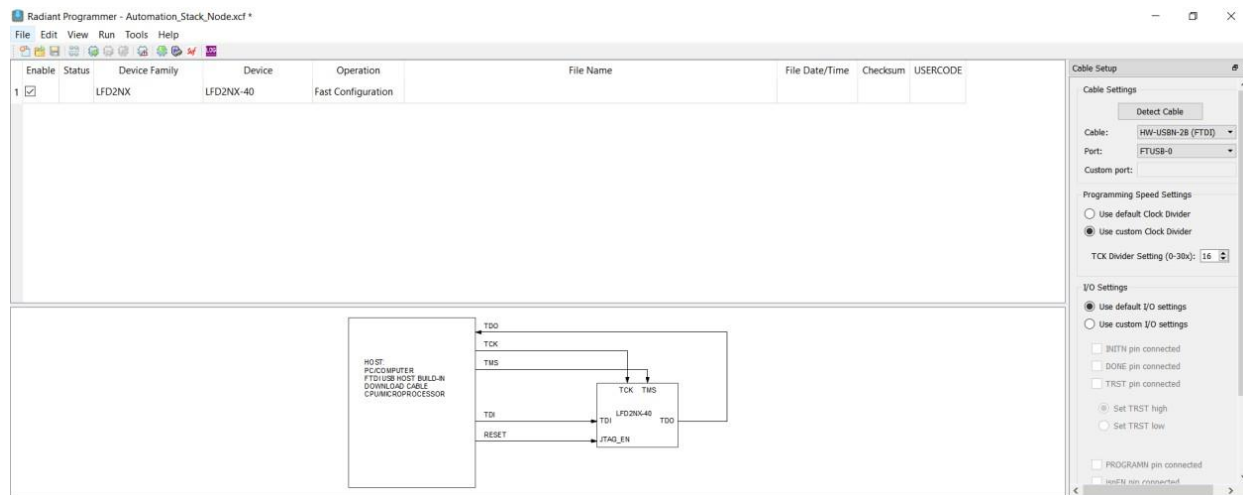

Figure B.17. Radiant Programmer - Device Properties (Node System)
4. In the Radiant Programmer main interface, select **LFD2NX** for **Device Family** and **LFD2NX-40** for **Device** as shown in Figure B.17.